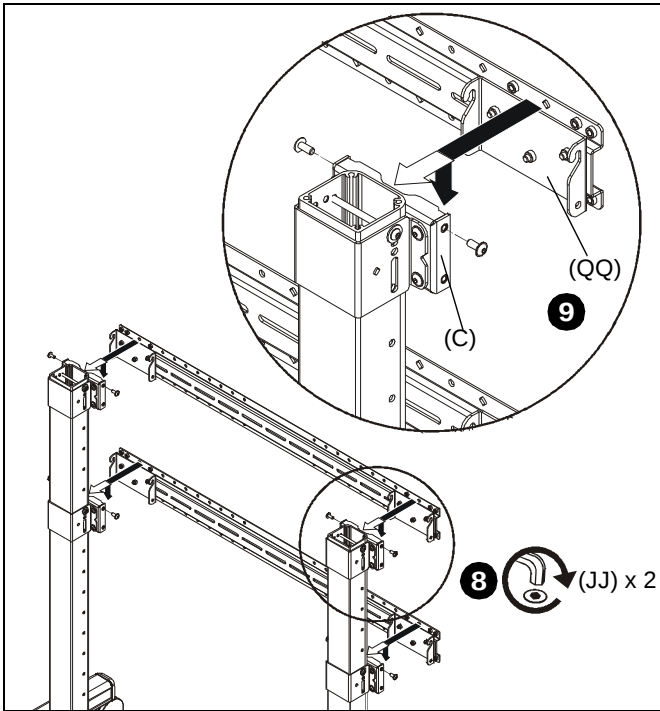

Figure 7
8. Loosely install two 5/16-18 x 3/4" button head flange screws (JJ) into the top holes on each quick connect base (C). (See Figure 7)
9. Hang quick connect brackets (QQ) onto screws installed in previous step. (See Figure 7)